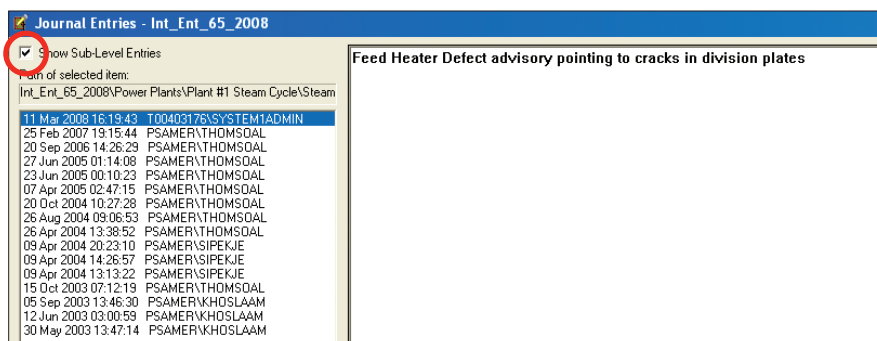

FIGURE 4: Displaying a list of journal entries for all of the sublevels below the selected hierarchy node.
**4** Journal Entries may be viewed as a group by selecting the highest level in the enterprise for which you want to see the Journal Entries. Right click and select Journal Editor from the shortcut menu. When the Journal Editor screen opens, mark the check box for "Show Sub-Level Entries" as shown in Figure 4.